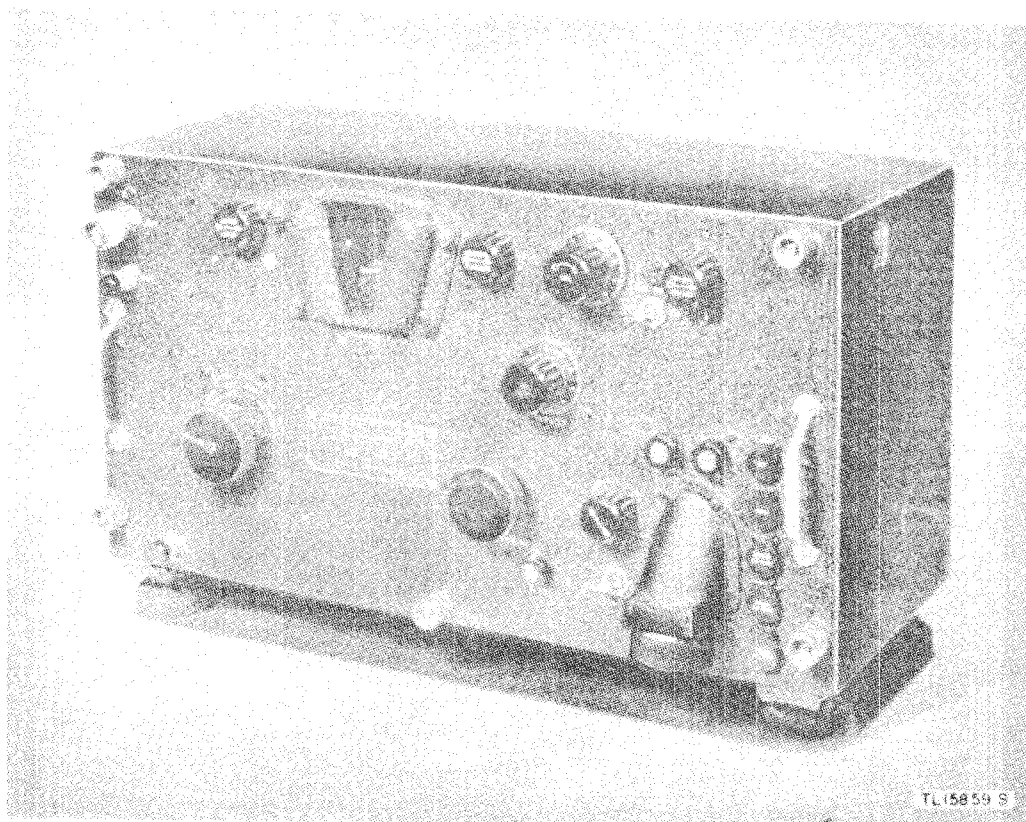
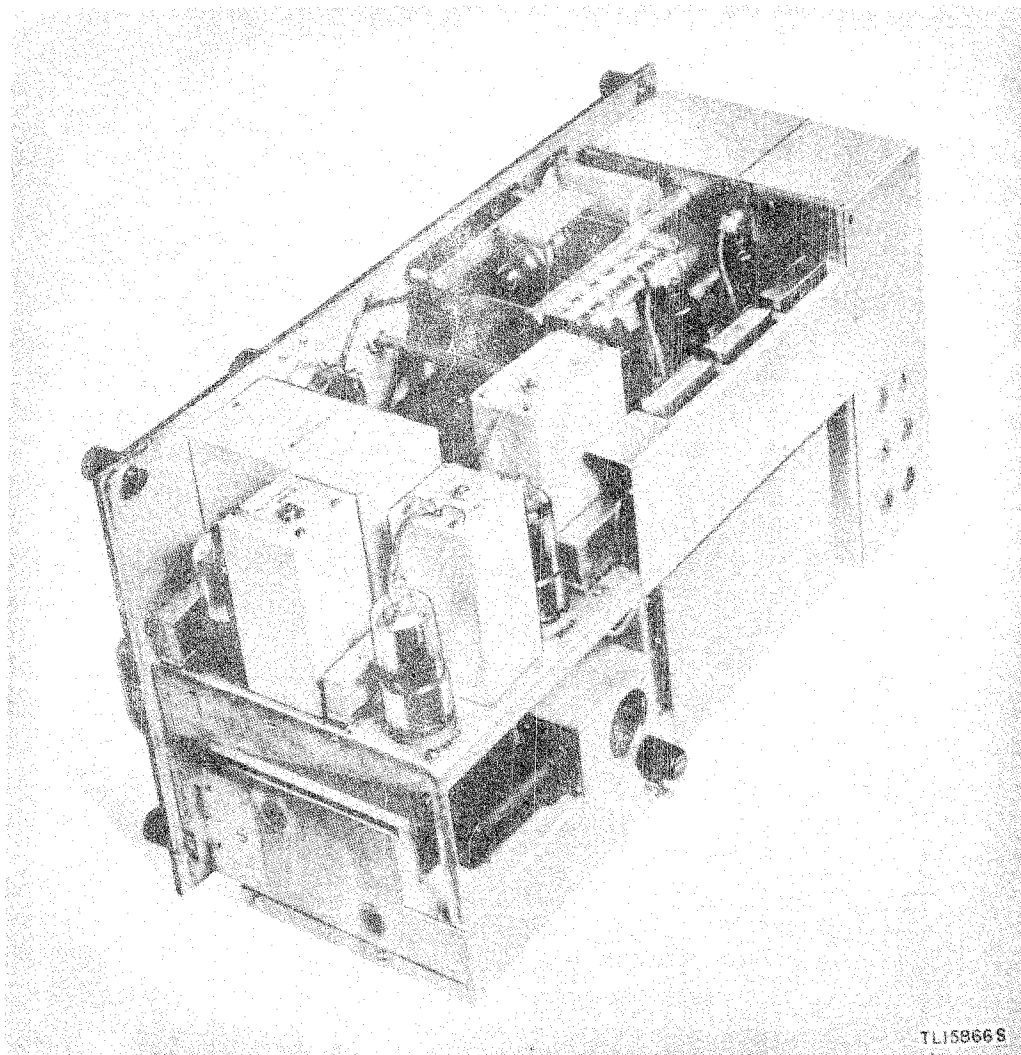

Figure 4. Radio Receiver BC-312-G.
Figure 9. Radio receiver, top view, case removed.
and inside chassis are made of metal. The internal parts of the receiver are thoroughly shielded by means of metal inclosures as shown in figure 9. The various compartments and shield cans are clearly marked and are easily identified. Aluminum was used in early models but substitutes have been used in later models. The outside surfaces of the cabinet and the front of the panel are finished in black. The whole panel-chassis assembly slides in and out of the cabinet readily and is locked firmly in place in the cabinet by means of five knurled locking screws of the captive type. Convenient handles are located on the vertical sides of the front panel. Front views of Radio Receivers BC-312-(*), BC-342-(*), and BC-314-(*), are shown in figures 4, 5, and 6, respectively. The front panel of Radio Receiver BC-344-(*), is identical to that of Radio Receiver BC-314-(*). Due to minor variations in design, certain receiver models may vary slightly in appearance from those shown.
(1) A disabling circuit which disables the receiver when the transmitter is operating. Connections to the disabling relay are made through pins N and J of socket SO1.
(2) A sidetone circuit which amplifies a portion of the audio voltage from the transmitter to be used as sidetone in the receiver output. Connections to the sidetone circuit are made from pin H of socket SO1 to ground.
(3) A microphone and a keying jack are mounted on the receiver front panel for use with a microphone or key at the receiver location to modulate or key an associated radio transmitter. Connections to the MICRO jack are made through pins E and U in socket SO1. Connections to the KEY jack are made through pin N in socket SO1 to ground.
b. VACUUM TUBES. (1) The receivers are ordinarily issued with tested radio tubes installed. The tubes should not be interchanged or removed unless they become defective; changing them may cause misalignment of the radio-frequency (r-f) circuits. Check that all tubes are in place and are firmly seated in their sockets. Except for the r-f oscillator and c-w oscillator tubes, all tubes are readily accessible when the chassis is removed from the receiver cabinet. (See fig. 9.)
(2) To reach the r-f oscillator tube socket, loosen the two screws near the top of the r-f oscillator compartment and lift the hinged cover over the rear third of this compartment.
(3) To reach the c-w oscillator tube socket, remove the screw at the top and the screw about halfway down the center of the right side of the oscillator compartment. *Loosen, but do not remove,* the screw at the bottom rear and the screw halfway down the left side of this compartment. Lift off the compartment cover.